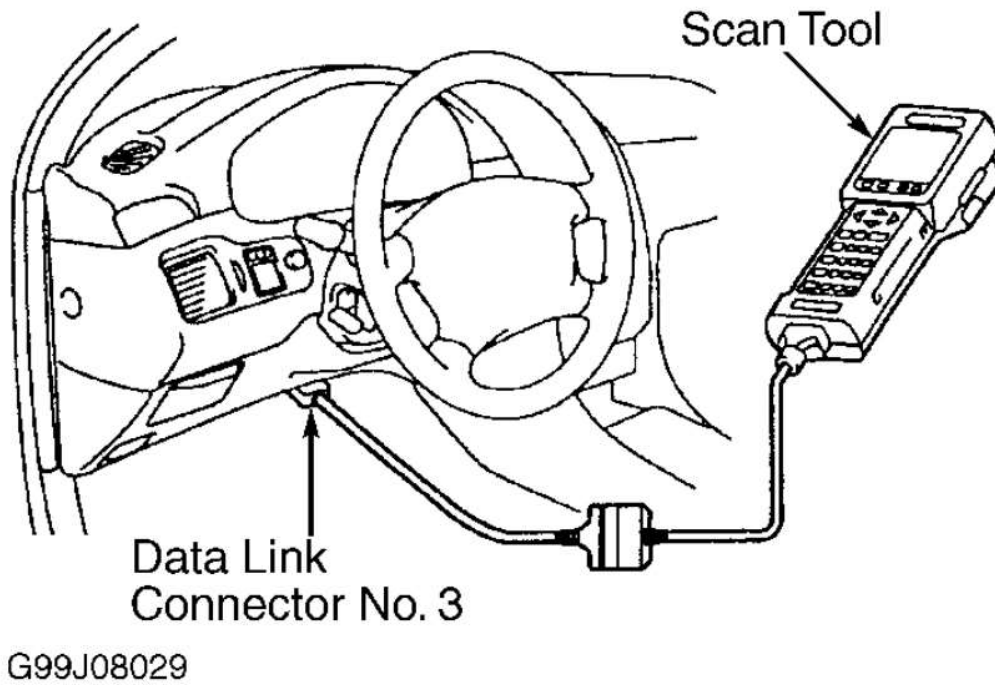
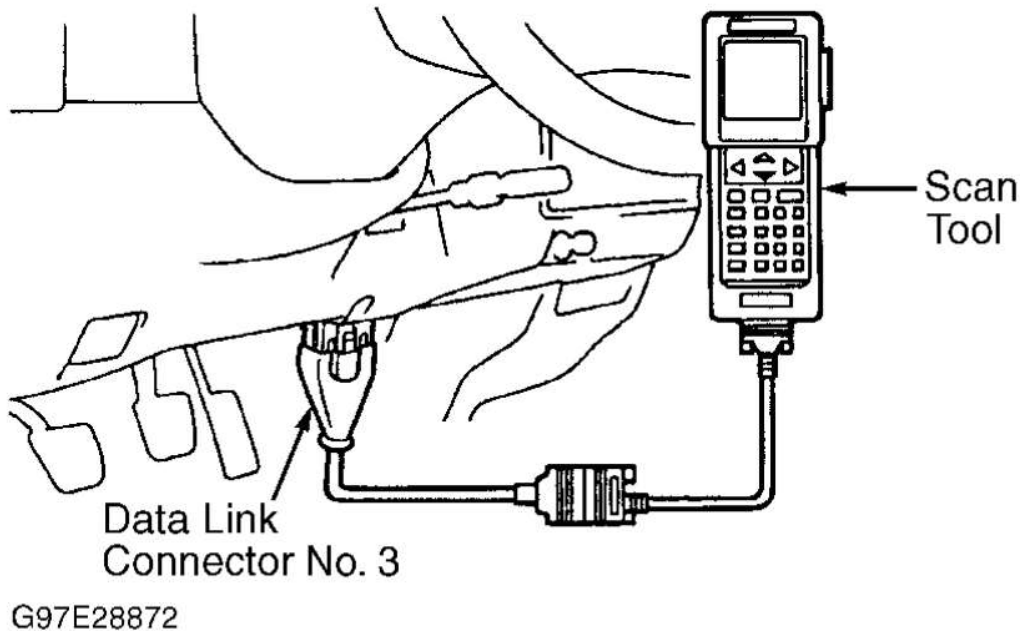

Fig. 3: Locating Data Link Connector No. 3 (Camry Solara)
Fig. 11: Locating Data Link Connector No. 3 (Tacoma)
1. Connect hand-held tester to data link connector No. 3 at driver's side of instrument panel. See **Fig. 3** and **Fig. 11** . Turn ignition on. DO NOT start engine.